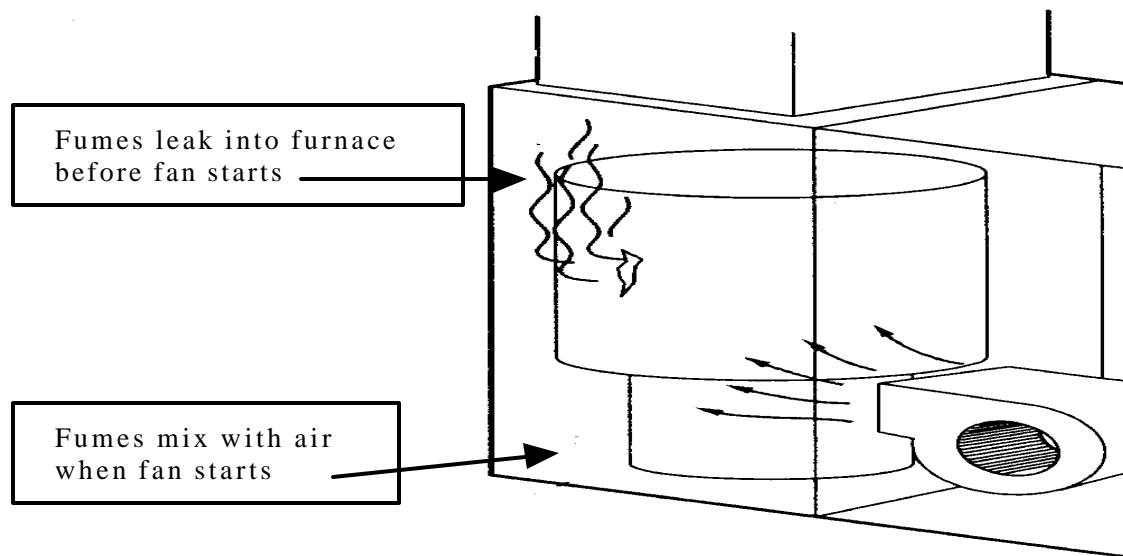

Figure 1, Cracked heat exchanger
Step 11: Heat Exchanger. The heat exchanger in furnaces acts as the combustion area, the transfer medium, and the flue passages. The heat exchanger is sometimes called the “heart” of the heating system. The most common problems that occur with a heat exchanger are restrictions and cracks or openings in the metal, (Figure 1).